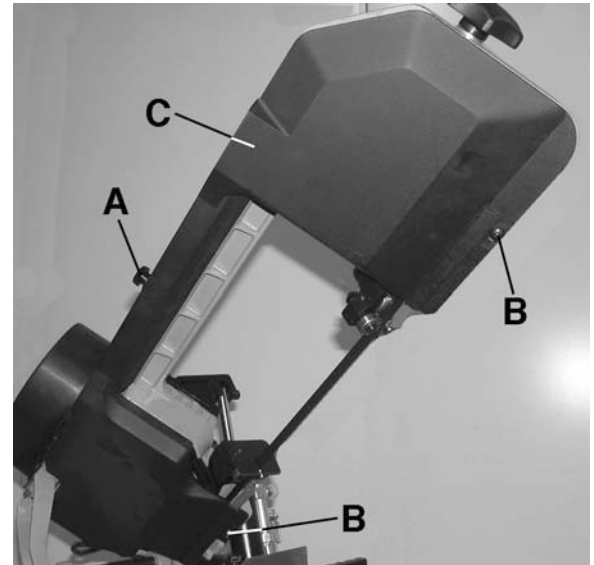

FIGURE 18
- 3) Remove the blade guard lock knob (A) Fig.18 and the 2 round head screws (B) which hold the blade guard (C) in place and remove blade guard.